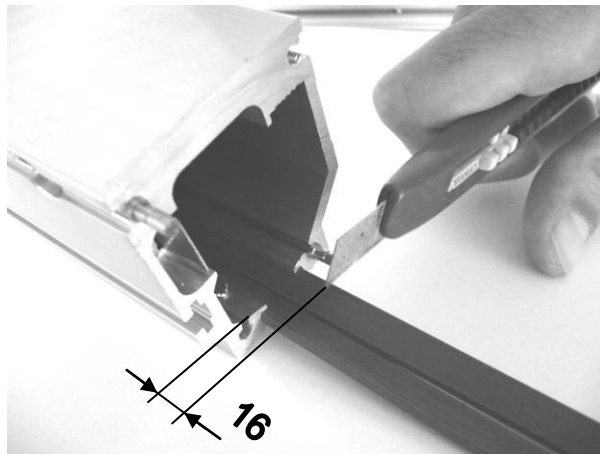

Figure 2.13
- b. Cut the sealing lips with a cutter, so that they stick out of the housing end by around 16 mm (see Figure 2.13).